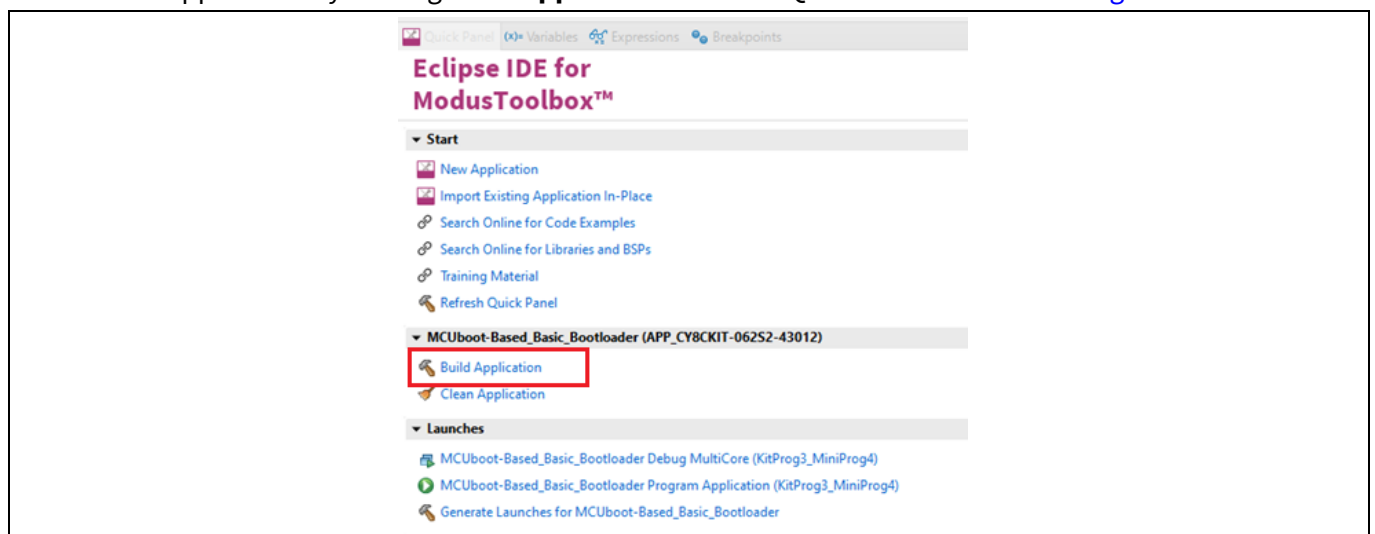

Figure 6 Building Application
4. Build the application by clicking **Build Application** from the Quick Panel as shown in Figure 6.